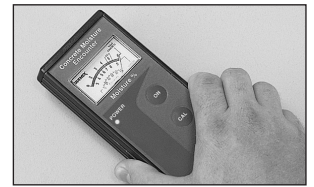

Figure 1
- **Tramex Concrete Moisture Encounter Meter** (Figure 1): Moisture readings should not exceed 4.5 on the upper scale. (Figure 1 shows an unacceptable reading of over 4.5) Concrete Moisture Meters give qualitative reading results-not quantitative ones. These results are a quick way to determine if further testing is required.